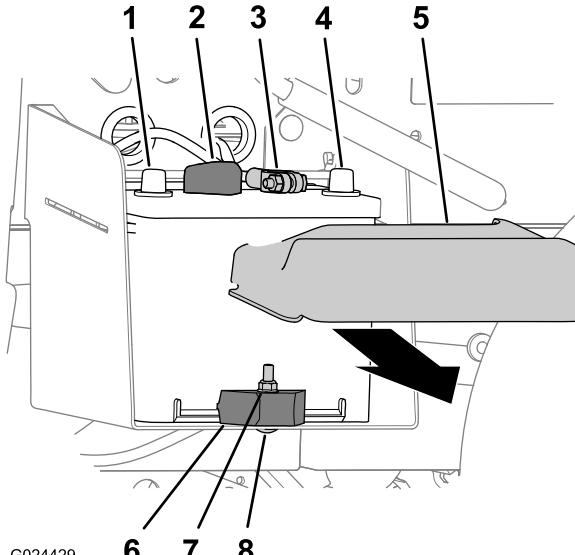

Figure 37
1. Remove the battery cover from the top of the battery (Figure 37).
2. Disconnect the positive-battery cable from the terminal of the battery (Figure 37).
3. Disconnect the negative-battery cable from the terminal of the battery (Figure 37).
2. Remove the locknut, carriage bolt, and battery clamp that secures the battery to the battery tray (Figure 37).
3. Remove the battery from the battery tray (Figure 37).
1. Align the battery to the battery tray of the machine (Figure 37).
- Note:** Ensure that the positive and negative posts of the battery are aligned as shown in Figure 37.
2. Secure the battery to the battery tray with the battery clamp, carriage bolt, and locknut (Figure 37).
1. Connect the negative-battery cable to the terminal of the battery (Figure 37).
2. Connect the positive-battery cable to the terminal of the battery (Figure 37).
3. Install the battery cover onto the top of the battery (Figure 37).